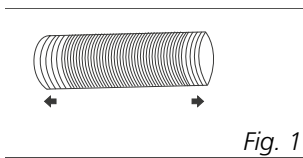

Fig. 1
**1** Extend either side of the hose (Fig.1) and screw the hose inlet (Fig.2).